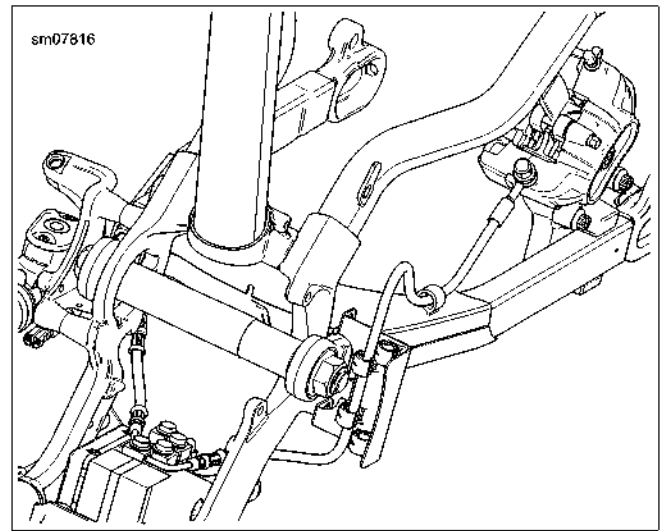

Figure C-13. EHC to Caliper Rear Brake Line Routing
1. See Figure C-13. Route brake line from EHCU to caliper.